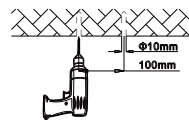

Figure 3
1. Mark with a marker or sharp tool on the mounting surface and drill. (Figure 3)